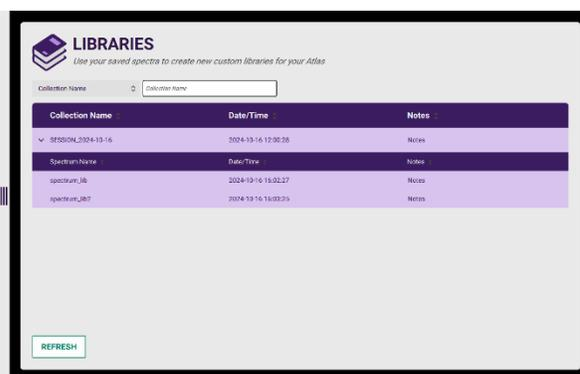

Figure 18. Select a spectrum to create a new custom analyte for the library
4. Once in the Libraries Tab, click on the file name that was saved previously in the "Build Spectra" page (Fig. 18).